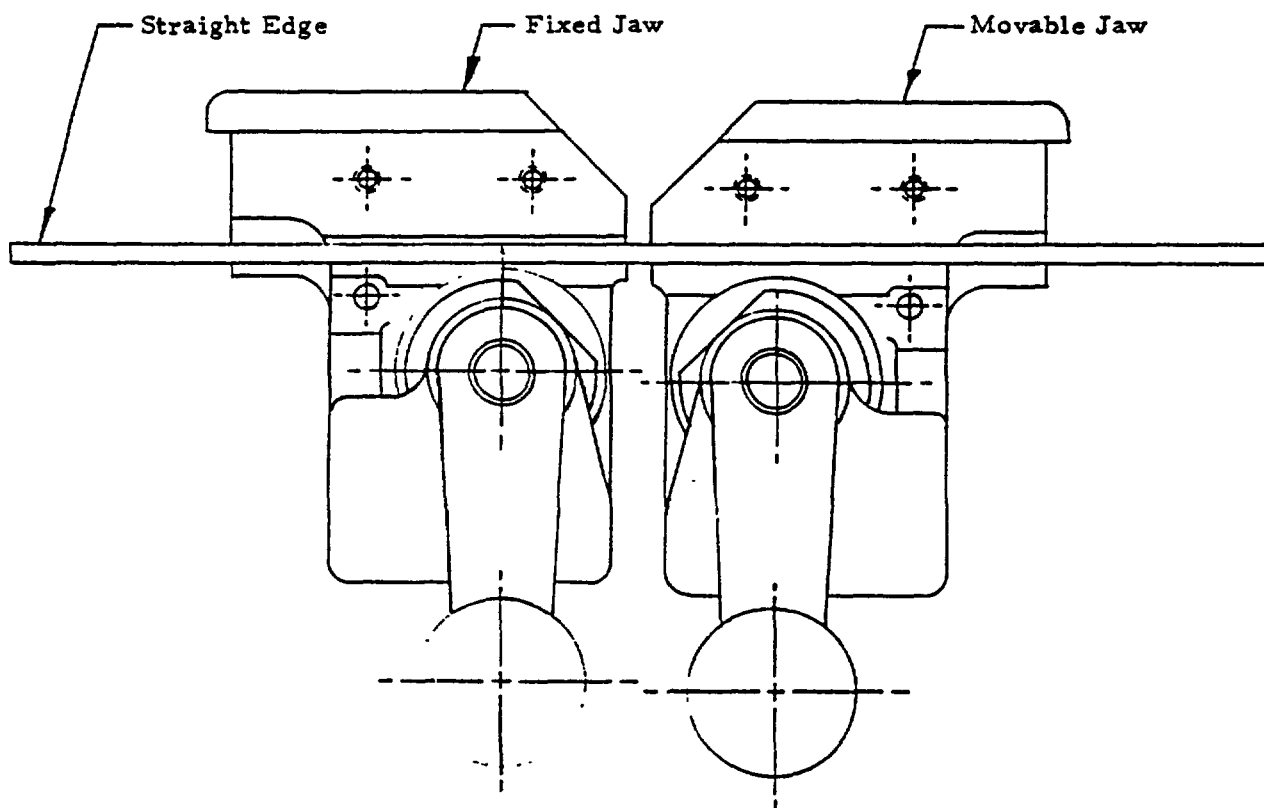

FIG. 1
1. Fig. 1 is an example of jaw elevation misalignment. It is checked with a straight edge. The fixed jaw must be moved to correct this problem. Loosen the mounting screws and move the jaw as required. The mounting screws are located inside the welder case and behind the fixed jaw